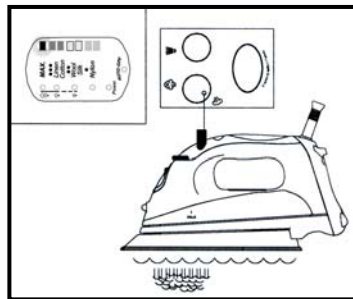

Fig. 3
- Select the desired fabric and temperature setting. Place the iron on its heel (on a stable, protected surface) and allow it to heat for **approximately two (2) minutes**.
- Turn the steam button all the way to the left to the burst of steam position (Fig. 3)